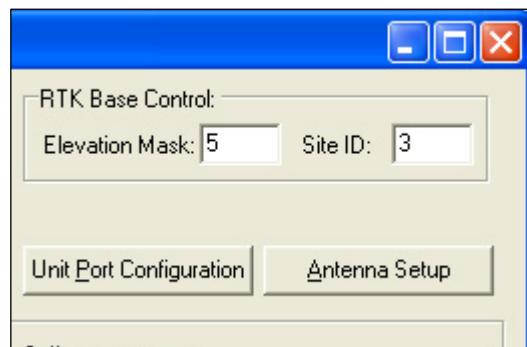

Figure 12: RTK Base Control
Refer to Figure 12 for the options below:
- ✓ **Site ID:** The default 0 configures the rover to accept RTK corrections from any base station. Enter a specific Site ID to accept RTK corrections only from the base station with the same Site ID. The default Site ID on the *Base Configuration* window is 3 (see Figure 12).